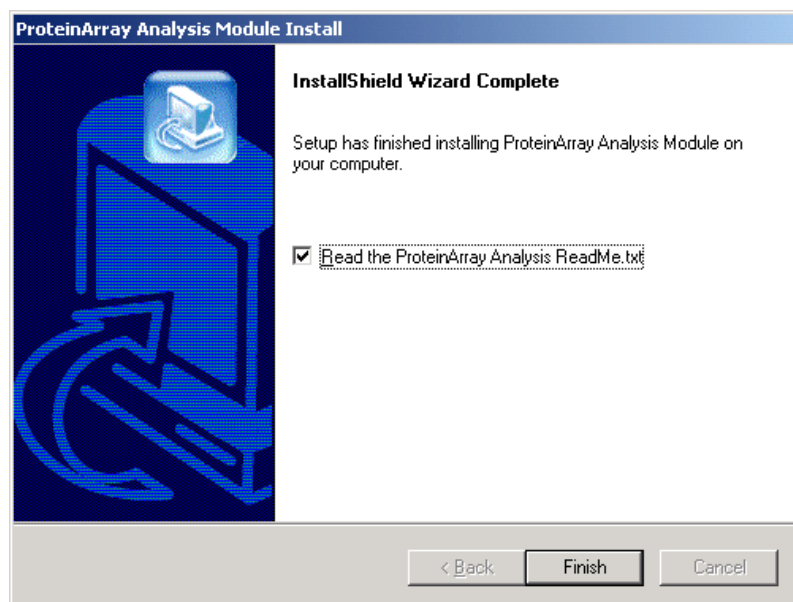

Figure C-3 Installation Complete.
5. When the installation is complete, restart your PC (Figure C-3).